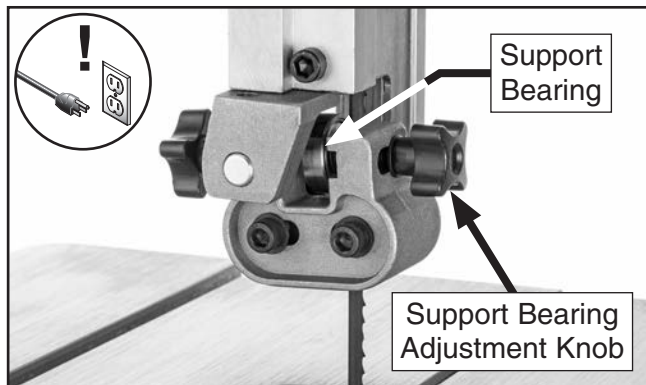

Figure 24. Upper support bearing components.
2. Loosen support bearing adjustment knob (see **Figure 24**).